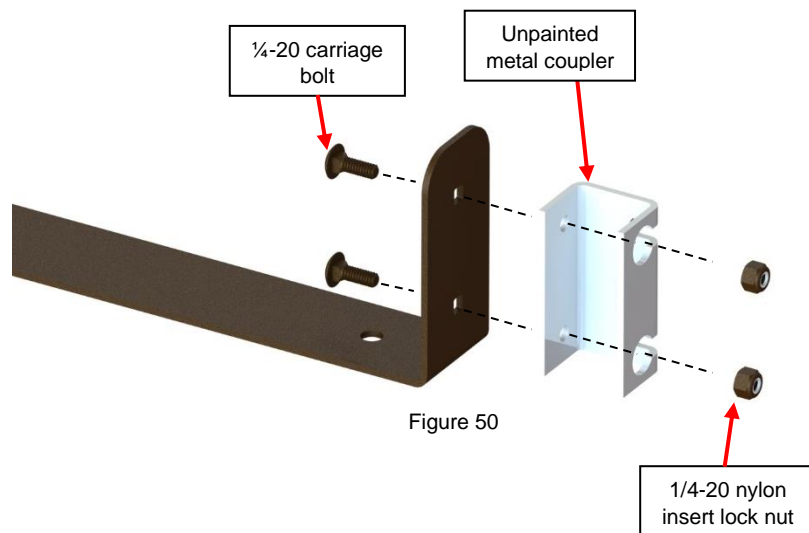

Figure 50
- 13) Install one unpainted metal coupler on each end of the front frame cut-out. (Figure 50)
- 14) Align one unpainted metal coupler with the holes on each end of the front frame cut-out. Use the provided 1/4"-20 x 3/4" carriage bolts, 1/4"-20 nylon-insert lock nuts and fasten the hardware with the 7/16" (11 mm) socket wrench and spanner. There is one metal coupler per side. (Figure 50)